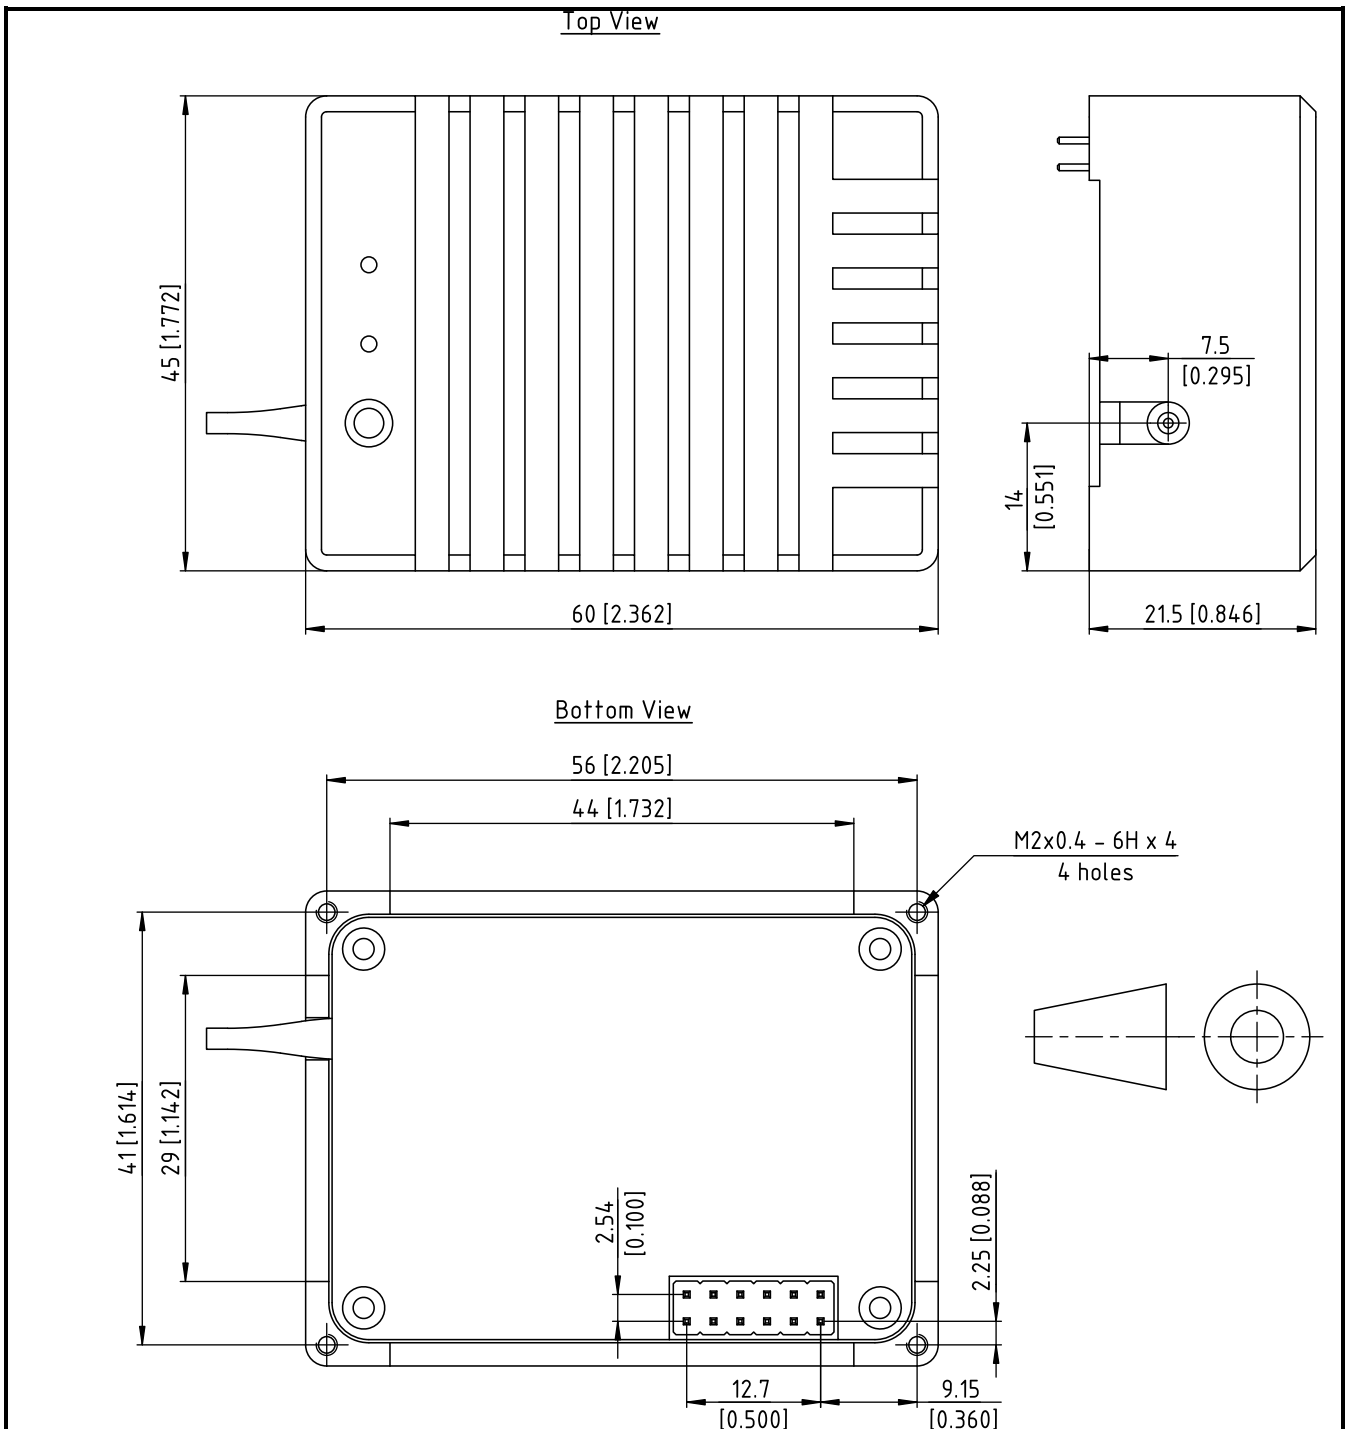

Figure 1. Drawings of Light Source. Dimensions are in millimeters [inches]
Temperature control is an essential factor when considering where and how you will integrate this light source into your application. Please contact Superlum should you have any queries about the BLL thermal management during installation and operation. A forced air circulation system around the enclosure is strongly recommended. To ensure the maximum effective heat dissipation, the Light Source may be mounted to an appropriate heatsink in any spatial orientation with 25mm of free space around the sides and cover to allow air circulation. The Light source should be anchored to a flat plate heatsink large enough to accommodate the light source base's entire footprint (see section 1.4; Figure 1. Drawing of Light Source) using the Four (4) anchoring holes.